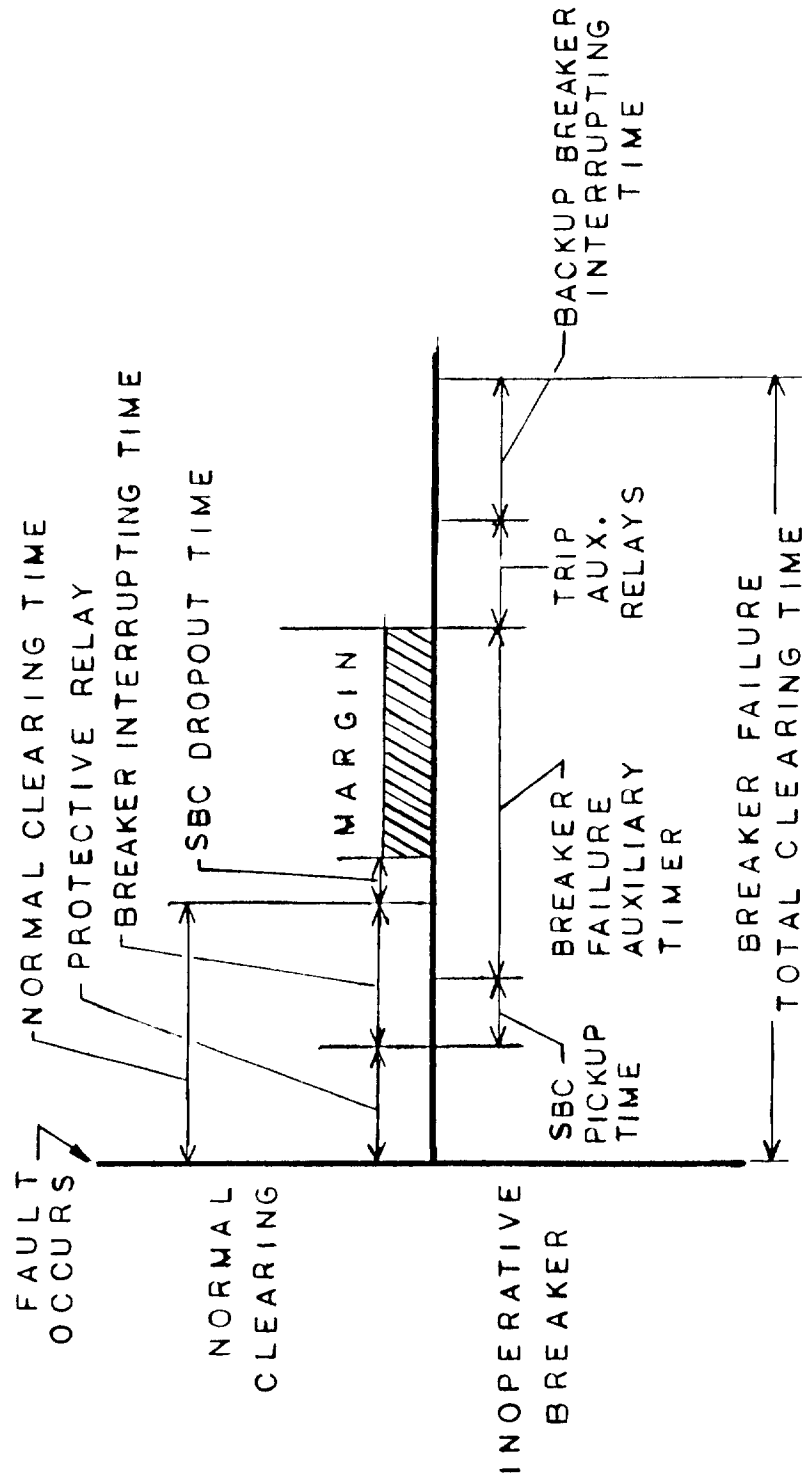

Fig. 8 (0285A6208-0) Breaker Failure Time Chart for the SBC31 Relay
- Fig. 8 Breaker Failure Time Chart for the SBC31 Relay